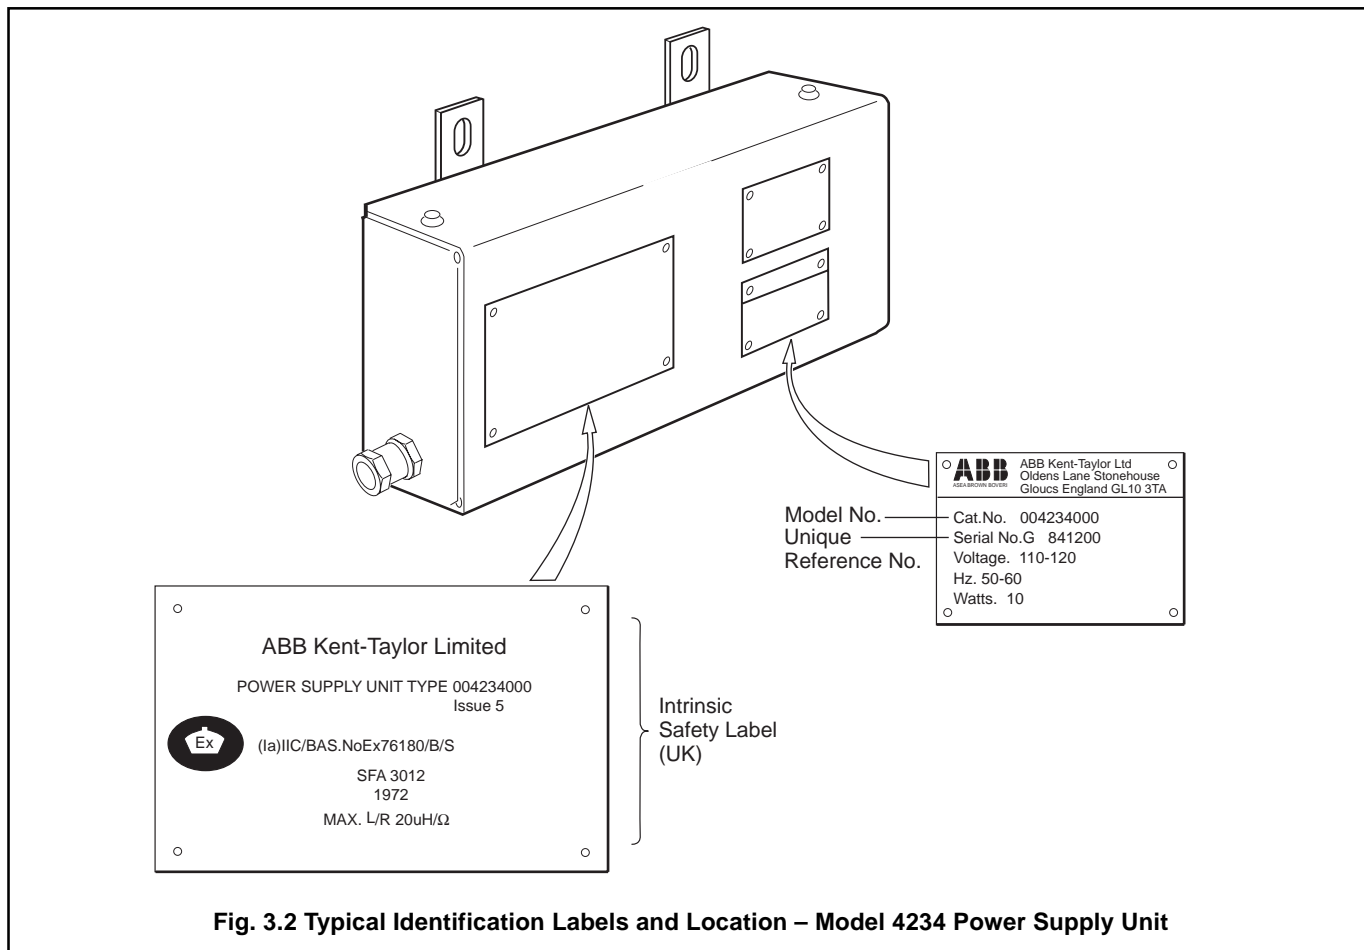

Fig. 3.2 Typical Identification Labels and Location – Model 4234 Power Supply Unit
3.1.2 Model 4234 Power Supply Unit – Fig. 3.2